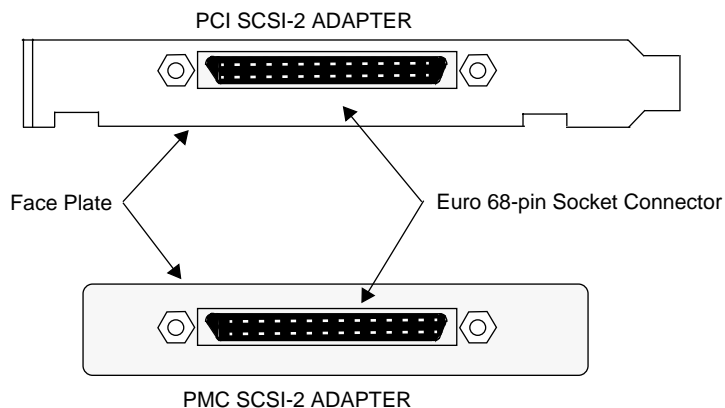

Figure 2-10. SCSI Connector Port
1. Attach the appropriate SCSI connector to the adapter as shown in Figure 2-10 below.